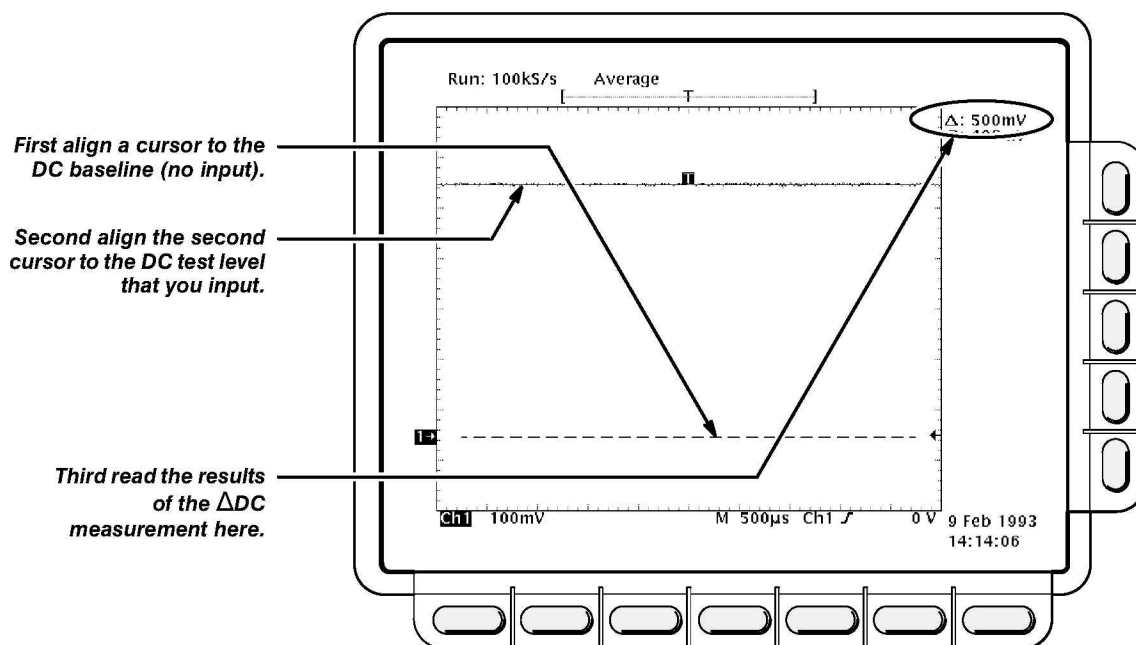

Figure 4-6: Measurement of the DC Accuracy for Delta Measurements
- Press **CLEAR MENU**. Read the measurement results from the delta (Δ) readout, not the absolute (@:) readout. See Figure 4-6.